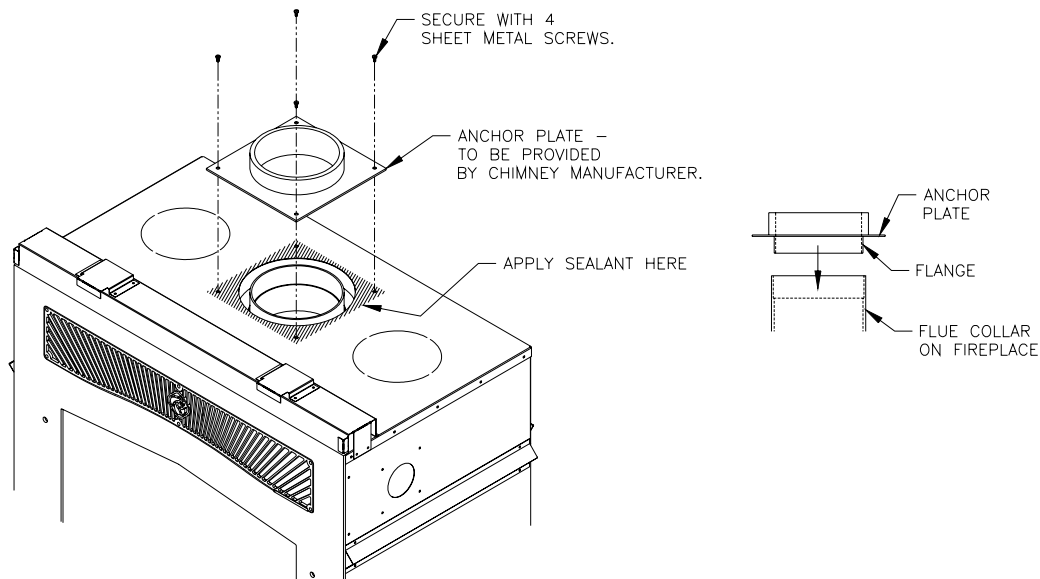

FIGURE 22: ANCHOR PLATE INSTALLATION
3. **IMPORTANT:** The anchor plate flange or air-cooled starter collar must fit into the flue collar on the fireplace to prevent creosote leakage. Figure 22 shows the proper installation onto the top of the Inglenook Fireplace. It is important that this anchor plate or starter collar be installed correctly to support the chimney, ensure no leakage of creosote, and ensure no leakage of fumes.